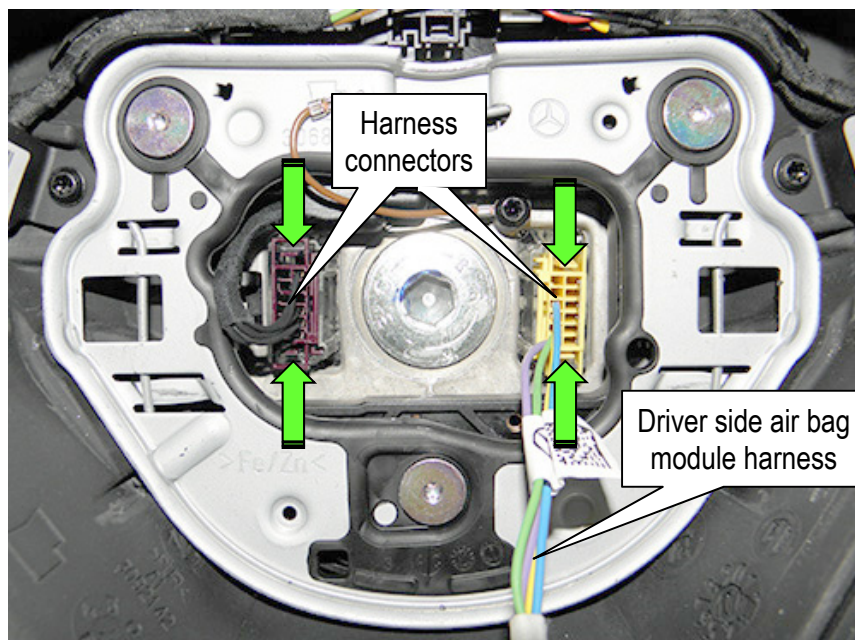

Figure 9
12. Disconnect the two (2) harness connectors from the steering wheel (Figure 9).
- Squeeze harness connector tabs inward to release (see green arrows in Figure 9).